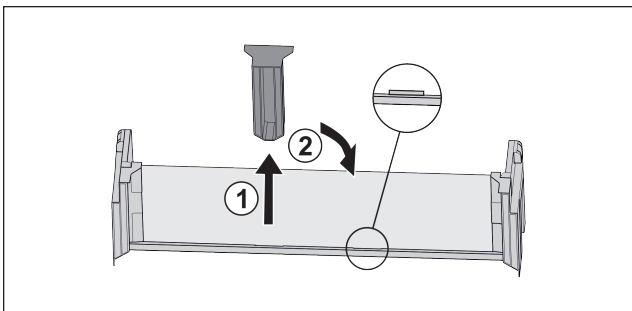

Fig. 75
- ▶ Pull off the middle holder Fig. 75 (1).
- ▶ Insert the middle holder in the second position Fig. 75 (2).